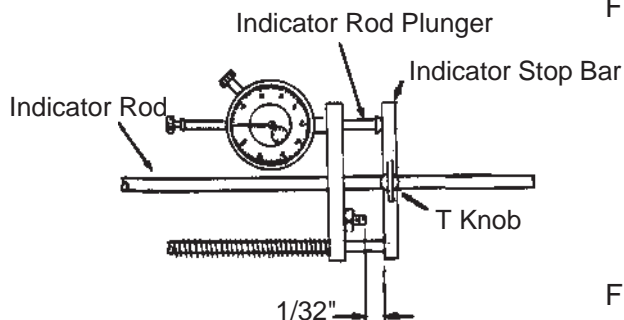

FIG. 47
- C. Now loosen Knob D on the indicator stop bar. Holding the indicator rod firmly against the reel shaft, move the indicator stop bar back, until no contact is made with the indicator rod plunger. Now move indicator stop bar forward until contact is made and then an additional 1/2". This will set the plunger at about its midpoint and allowing it to move in both directions. See FIG. 47.